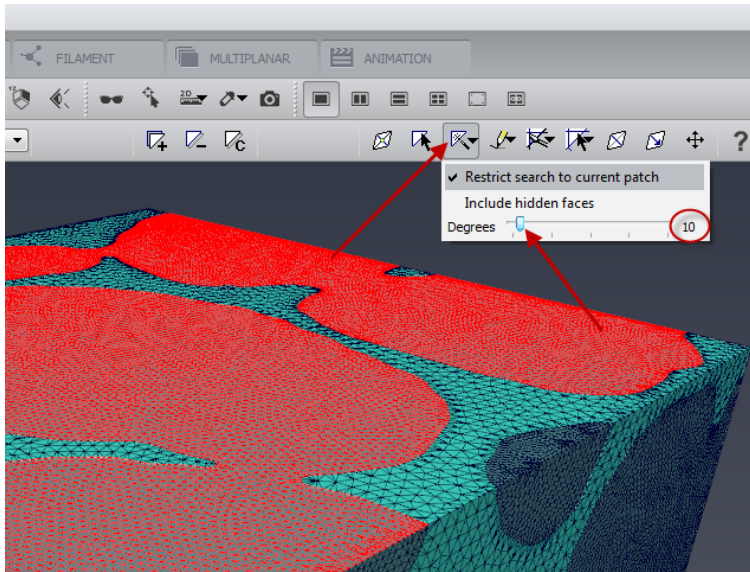

Figure 5.31: Using the *Magic Wand* to select a patch of coplanar triangles.
- Set the *Degrees* parameter to a value small enough, such as 10 (see Figure 5.31).